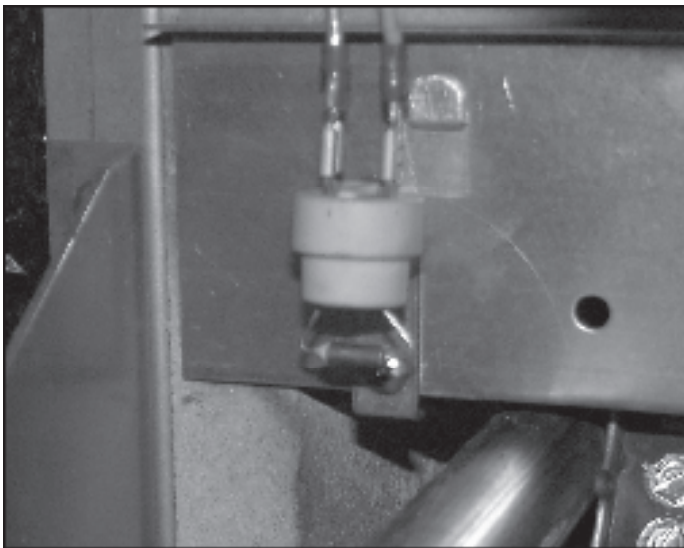

Figure 1: Flame Rollout Switch
- 3) All boilers are equipped with a flame rollout switch (Figure 1). This switch will shut the burners down in the event that flames exit the burner compartment through the front opening. If the boiler fails to fire, call a qualified heating service agency to diagnose and correct the problem.